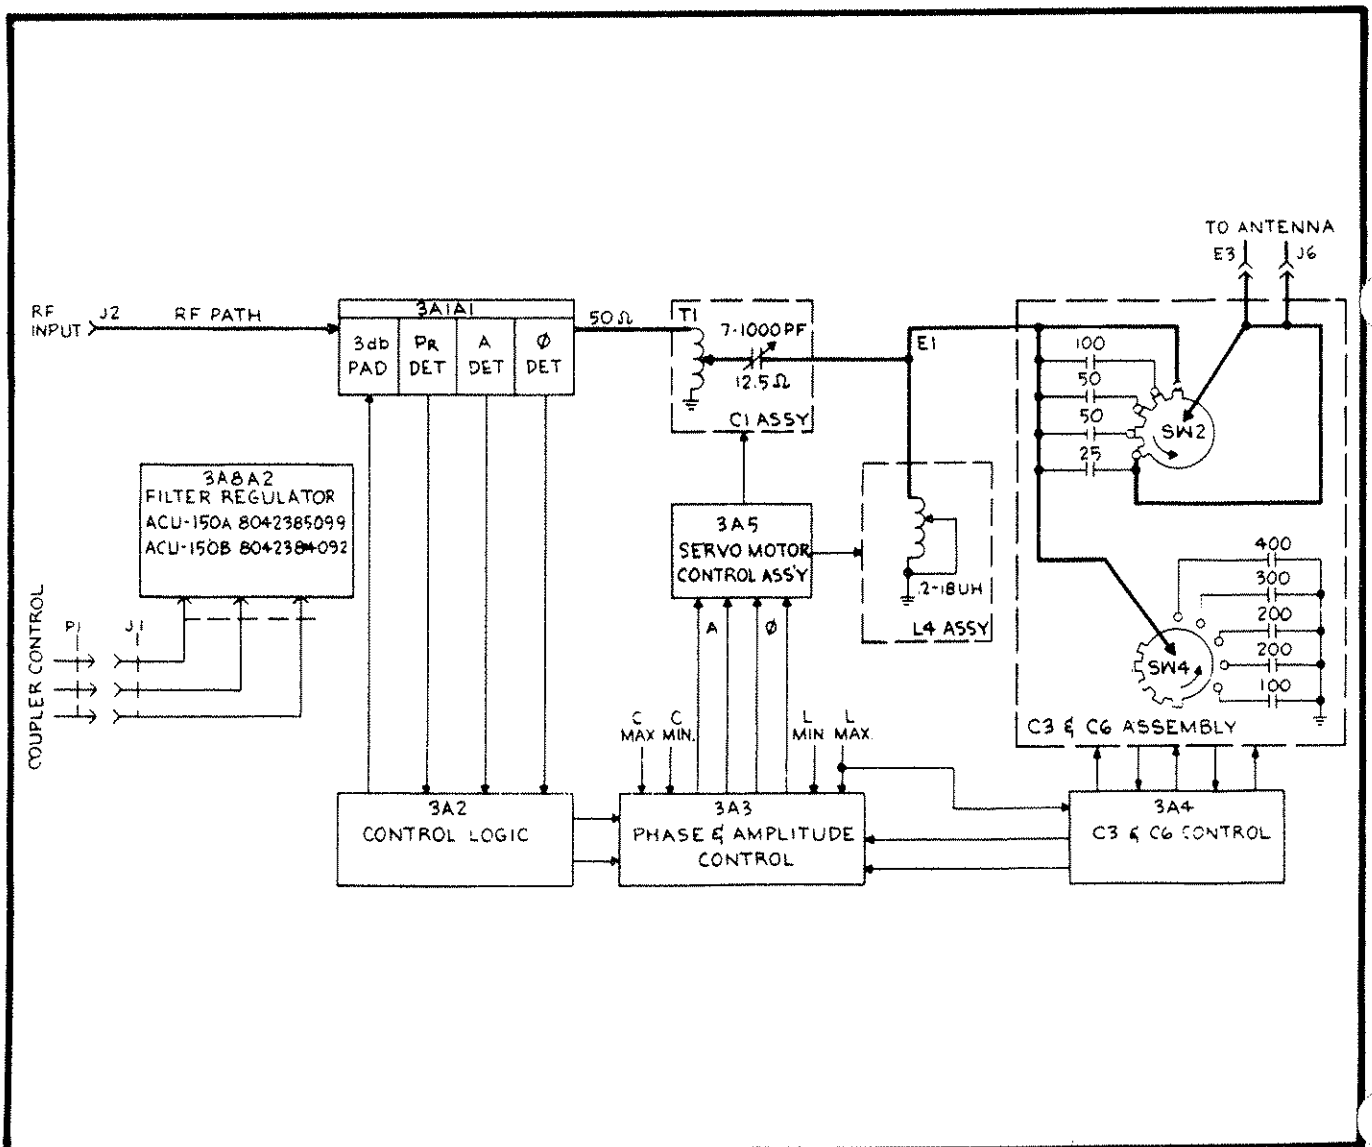

Figure 4.1 Block Diagram, ACU-150 ()
The ACU-150 () line of antenna couplers are fully automatic and are designed to be used with Sunair's line of airborne transceivers and ground based transceivers. Figure 4.1 is a block diagram of the ACU-150 ().
Referring to Figure 4.1, the heavy line indicates the RF path. The antenna tuning elements consists of L4, C1, C3 and C6. L4 is a variable inductor that has an inductance range of 0.2 to 18 microhenries nominal. C1 is a vacuum variable capacitor with a range of 7 to 1000 pf nominal. C3 is a switched series capacitor that has 225 pf, 125 pf, 75 pf, and 25 pf. C6 is used in shunt with the antenna and steps 100 pf, 300 pf, 500 pf, 800 pf, and 1200 pf. The input to the variable capacitor is always 12.5 ohms resistive (when the coupler is tuned) and broadband transformer T1 is used to transform 12.5 ohms to 50 ohms. The Pad, Phase and Amplitude Detector (3A1A1), is always monitoring the reflected power (PR), amplitude error and phase error. Two antenna outputs are provided, a screw type for wire antennas, and a type HN high voltage connector for antennas driven with a coaxial output, J6. Wire antennas are connected to the HN adaptor.